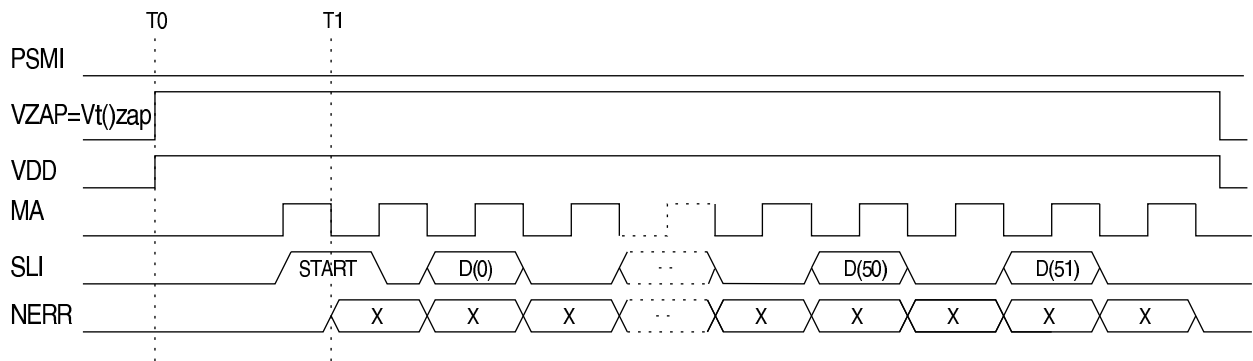

Figure 6: Serial Timing of Zapping
- Zapping mode (ZM)(VZAP = 6.8V): In ZM each diode is being zapped immediately with the rising edge of MA. See figure 6 for details. Zapping is only allowed for VDD = 5V ±5%, Tj = 10...40°C.
Figure 6 demonstrates how to program the diodes in the iC-MP. The meaning of the bits is shown in table 4. The iC-MP has the possibility to program three sets of parameter. The resulting Parameter (OFFSET, MODE) are generated by an xor-operation of the three sets of bits.